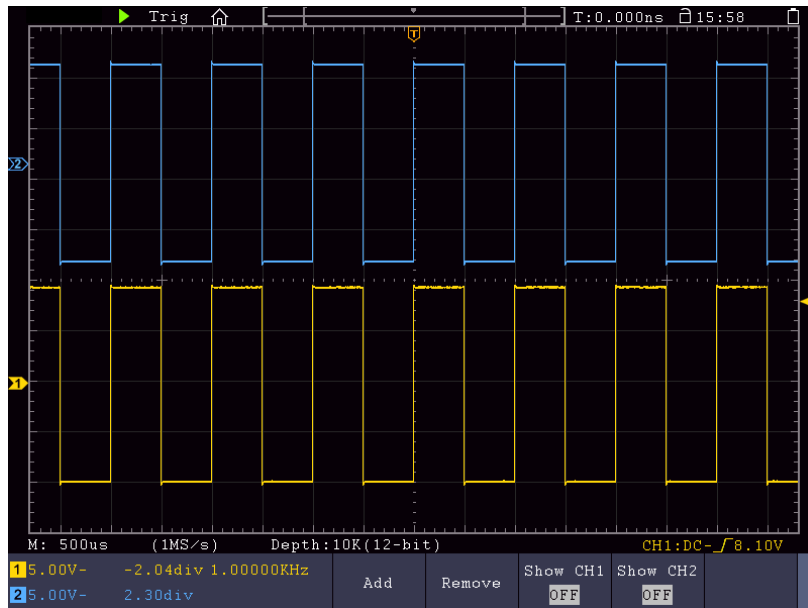

Figure 8-2 Waveform of Gain Measurement
- (1) Push the **Autoset** button and the oscilloscope will automatically adjust the waveforms of the two channels into the proper display state.
- (2) Push the **Measure** button to show the Measure menu.
- (3) Select **Add** in the bottom menu.
- (4) In the right menu, select **CH1** in the **Source** menu item.
- (5) In the left Type menu, turn the **M** knob to select **PK-PK**.
- (6) In the right menu, select **Add**. The peak-to-peak type of CH1 is added.
- (7) In the right menu, select **CH2** in the **Source** menu item.
- (8) In the left Type menu, turn the **M** knob to select **PK-PK**.
- (9) In the right menu, select **Add**. The peak-to-peak type of CH2 is added.
- (10) Read the peak-to-peak voltages of Channel 1 and Channel 2 from the bottom left of the screen (see Figure 8-2).
- (11) Calculate the amplifier gain with the following formulas.